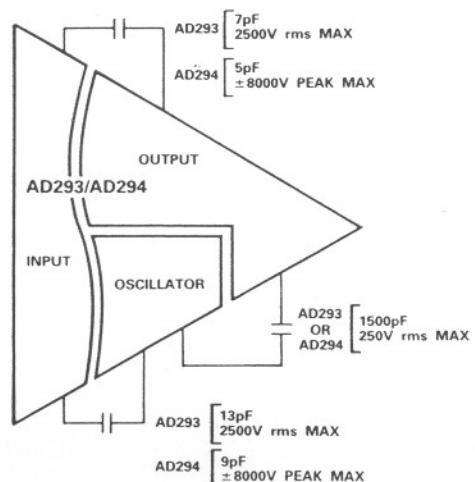

Figure 3. Interelectrode Capacitance and Terminal Ratings
**Capacitance:** Interelectrode terminal capacitance effects are developed from stray capacitance that couple the input and output terminals together. The difference shown in Figure 3 between the AD293 and AD294 is a result of the separate transformer designs. Each terminal capacitance is shunted by leakage resistance exceeding  $3.4 \times 10^9\Omega$ .
**Terminal Ratings:** CMV performance is given in peak pulse and continuous ac or dc peak ratings. Continuous peak ratings apply from dc up to the normal full power response frequencies. Figure 3 illustrates the AD293/AD294 ratings between terminals.